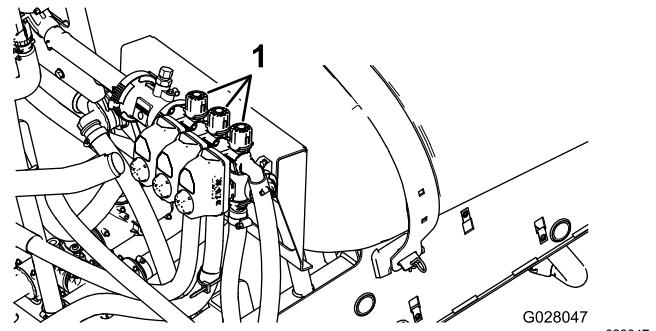

Figure 86
- Turn off the left-section switch and adjust the left section-bypass valve (Figure 86) until the pressure reading is at the previously adjusted level (typically 2.75 bar or 40 psi).
- Adjust the right section-bypass valve (Figure 86) until the pressure reading is at the previously adjusted level (typically 2.75 bar or 40 psi).
6. Adjust the center section-bypass valve (Figure 86) until the pressure reading is at the previously adjusted level (typically 2.75 bar or 40 psi).